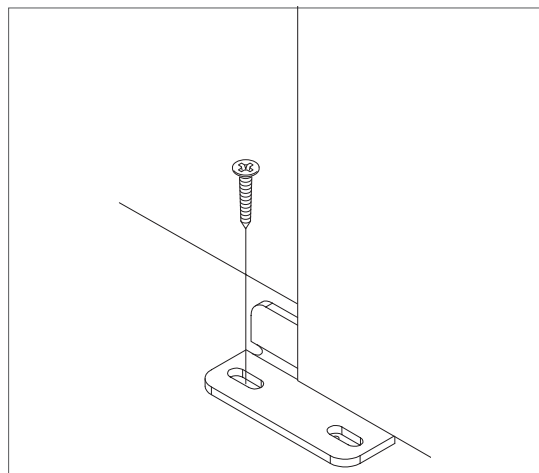

Figure 14
17. Position the door guide part way into the groove in the bottom of the door. (Figure 14).